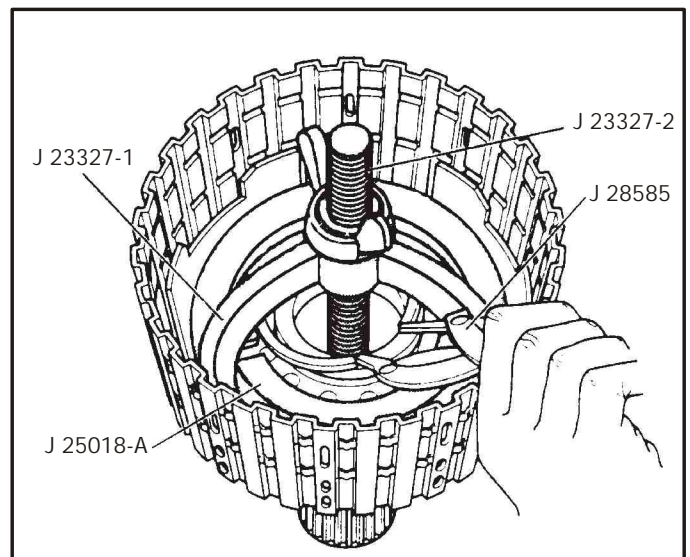

Figure 113
31. Compress the retainer and install the snap ring into the groove, as shown in Figure 113.